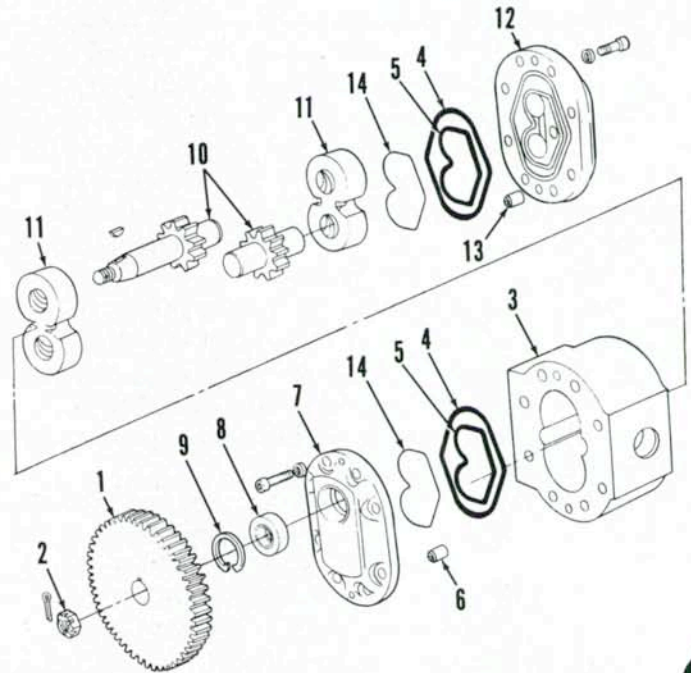

Fig. 280—Exploded view of hydraulic pump used on Models TW-5, TW-15, TW-25 and late production TW-35 (March 1984 and after).
**200. OVERHAUL PUMP.** To disassemble pump, refer to Fig. 280 and proceed as follows: Remove drive gear retaining nut (2), then remove drive gear using a suitable puller. Remove Woodruff key from pump shaft. Remove cap screws retaining front and rear covers to body. Lightly tap pump shaft with a soft mallet to remove rear cover (12) from locating dowels (13), then tap gear shafts with mallet to remove front cover (7) from dowels. Withdraw gears (10) and bearings (11). Keep components in order as removed. Remove pressure loading rings (5), back-up ring (14) (TW-35) and seal rings (4) from front and rear covers.